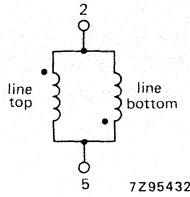

Fig. 2a Line coils.
**Line deflection coils, parallel connected (Fig. 2a), terminals 2 and 5**